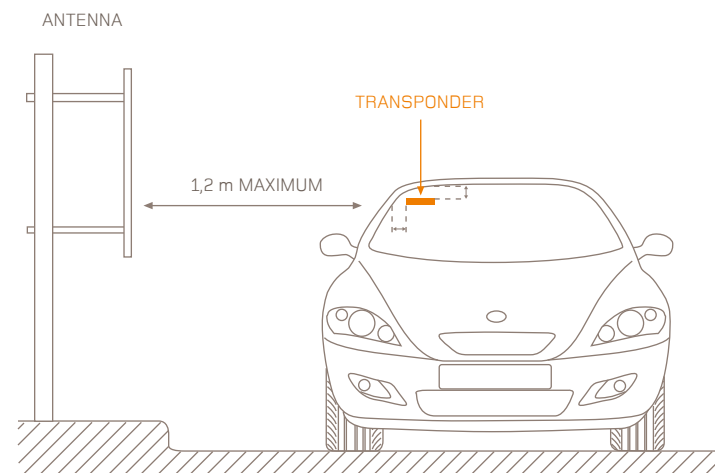

Fig. 2
- Transponder: 12 cm black cylinder which serves to identify the vehicles at the various entrances to the tracks. The transponder is placed horizontally in the upper right-hand area of the windshield at a distance which is not less than 10 cm from the metal parts of the vehicle. The transponder's position is shown in figure 2.